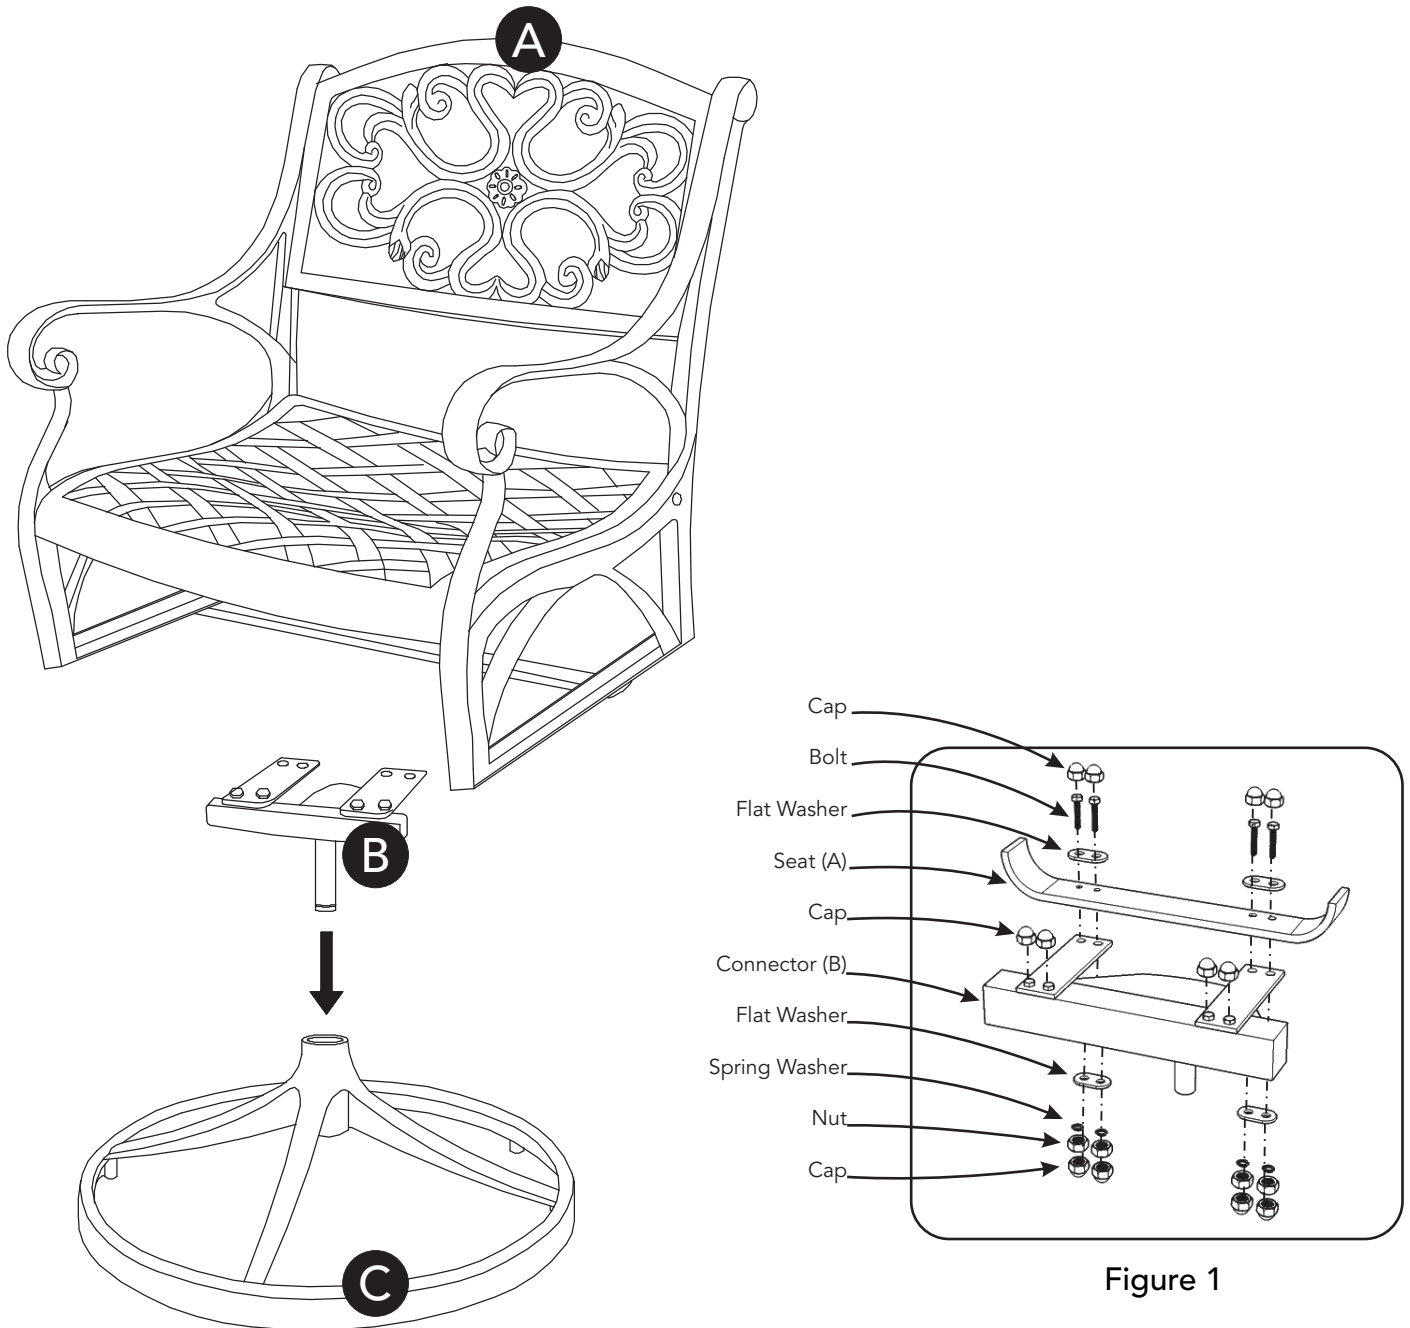

Figure 1
Attach Connector (B) to Seat (A) with Bolts, Spring Washers, Flat Washers and Nuts, tightening bolts only halfway. (See Figure 1)